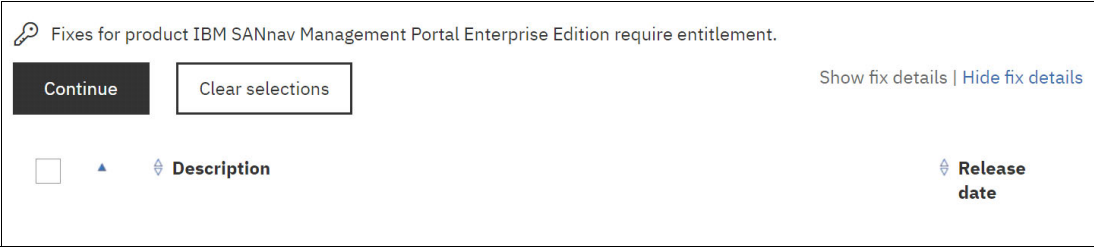

Figure 11-7 Fix Central: Quick order
10.You must provide the correct information for the FOS entitlement check (see Figure 11-7).